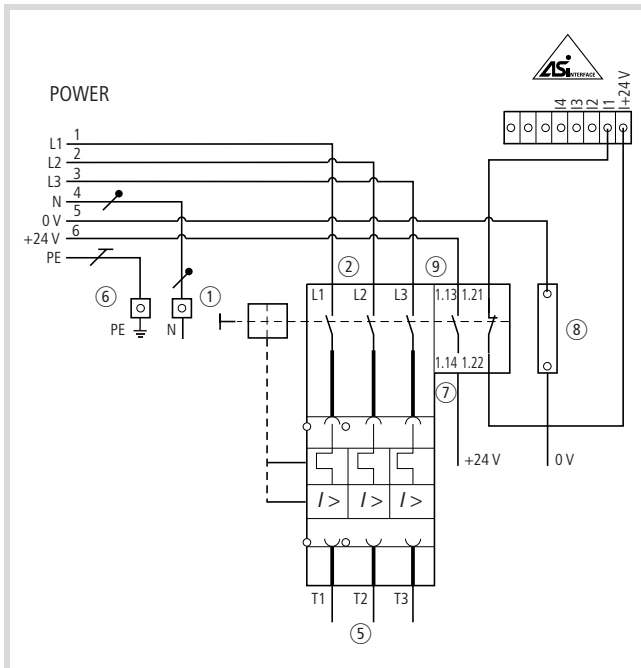

Figure 38: Wiring of disconnect control unit (for legend, see figure 37)
- ▶ Feed a 7 × 2.5 or 7 × 4 mm² round cable (T1, T2, T3, N, PE, 24 V, 0 V) in to the busbar, fit the connectors and connect it as shown in figure 38.
- ▶ Fed the round cable(s) 5 × 2.5/4/6 mm² (L1, L2, L3, N, PE) and 2 × 2.5/4/6 mm² (24 V, 0 V) or alternatively 7 × 2.5/4 mm² (L1, L2, L3, N, PE, 24 V, 0 V) in to the busbar, fit the connectors and connect them as shown in figure 38.